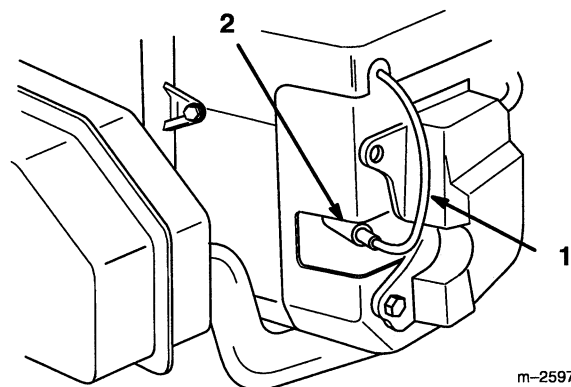

Figure 21
2. Pull the wire(s) off the spark plug(s) (Fig. 21). Now clean around the spark plug(s) to prevent dirt from falling into the engine and potentially causing damage.
3. Push the wire(s) onto the spark plug(s) (Fig. 21).